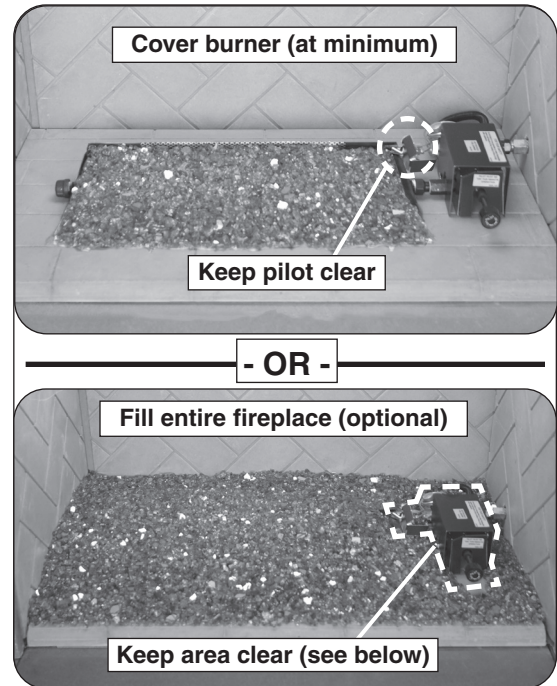
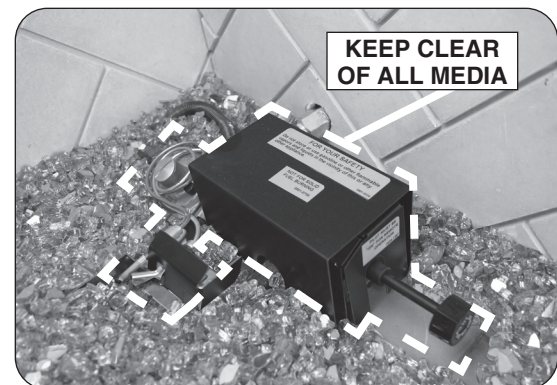

Fig. 22-1 Glass media placement
Fig. 22-3 Keep pilot, valve, & shield clear
1. After the required sand/vermiculite and screen have been placed, pour the glass media (glass, gems) so that the burner pan is covered completely and evenly (see Fig. 22-1).
- DO NOT place any glass media directly on the pilot assembly, on or within the heatshield, or under a knob if one exists at the front of the valve (see Fig. 22-1 and Fig. 22-3).
2. Complete placement by pouring the remaining glass media on the floor of the fireplace, around the front, rear, and sides of the burner system (see Fig. 22-1).
KEEP SAND/VERMICULITE, GLASS/GEMS, AND ALL FOREIGN OBJECTS AWAY FROM THE PILOT ASSEMBLY, VALVE ASSEMBLY, AND HEAT SHIELD DURING MEDIA PLACEMENT AND AT ALL TIMES. SEE FIG. 22-3.